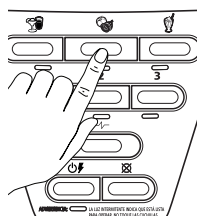

Fig. 20
4. Press one of the three intelligent program buttons appropriate for your recipe (Fig. 20).